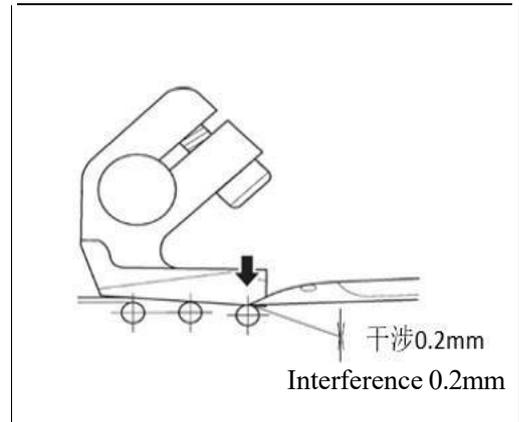

Figure 7-26
(1) When the hook③ moves from right to left, and the tip of the hook touches the center of the right needle, use the rear thimble plate ④ to push the right needle forward, creating a 0.2mm interference gap with the hook③. (Figures 7-26, 7-29)